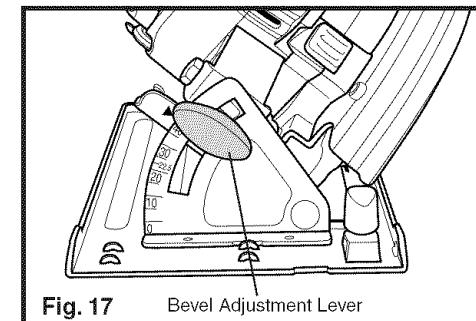

Fig. 17 Bevel Adjustment Lever
HOW TO SET YOUR BEVEL ANGLE (Fig. 17)
3. Loosen bevel adjustment lever (see Fig. 17).